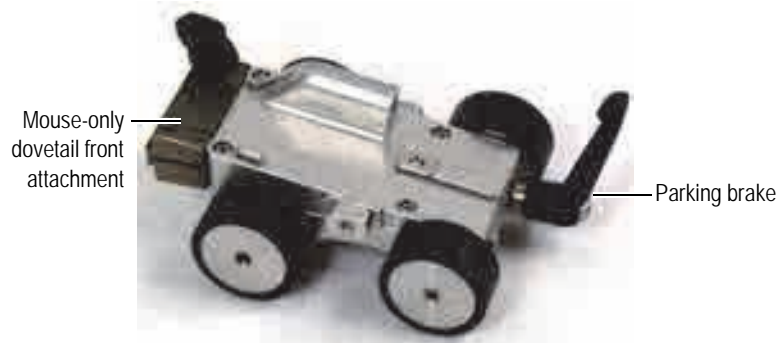

Figure 2-26 Mouse-dedicated dovetail front attachment and parking brake
6. Use a hexagonal key or the supplied universal tool to install the mouse-dedicated dovetail attachment for the mouse scanner (see Figure 2-26 on page 45).